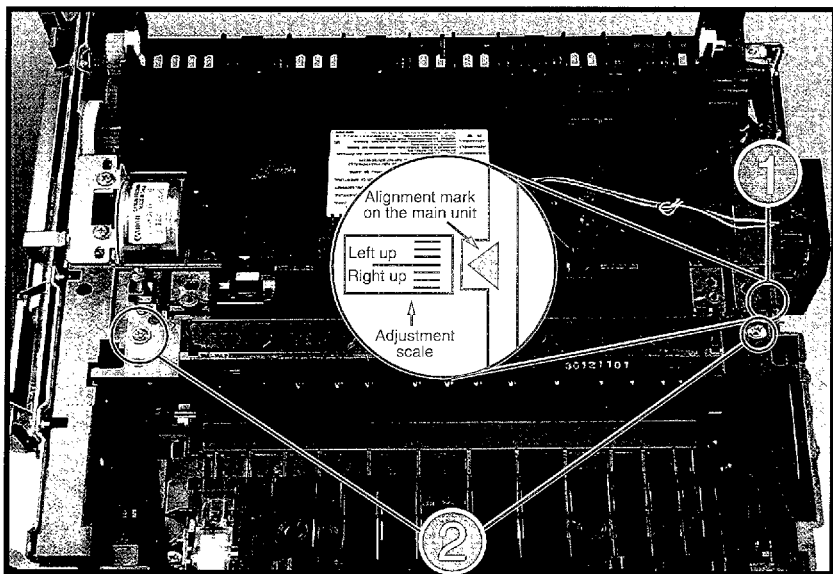

Figure 6-26 Removing the Beam-to-Drum Mirror
2. Note where the mark on the printer chassis aligns with the graduated scale on the mirror (Figure 6-26, callout 1).
3. Remove the (2) self-tapping screws (Figure 6-26, callout 2). Grasp the mirror assembly by the sides only, and lift to remove.